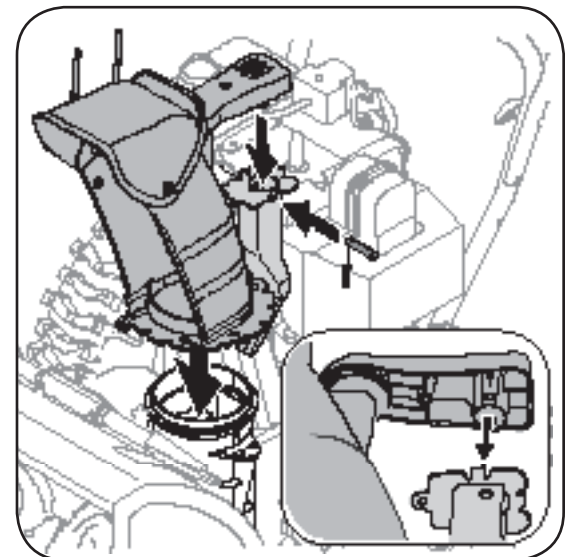

Figure 4
6. Place chute assembly onto chute base and secure chute control assembly to chute support bracket with clevis pin and cotter pin removed earlier. See Figure 4.